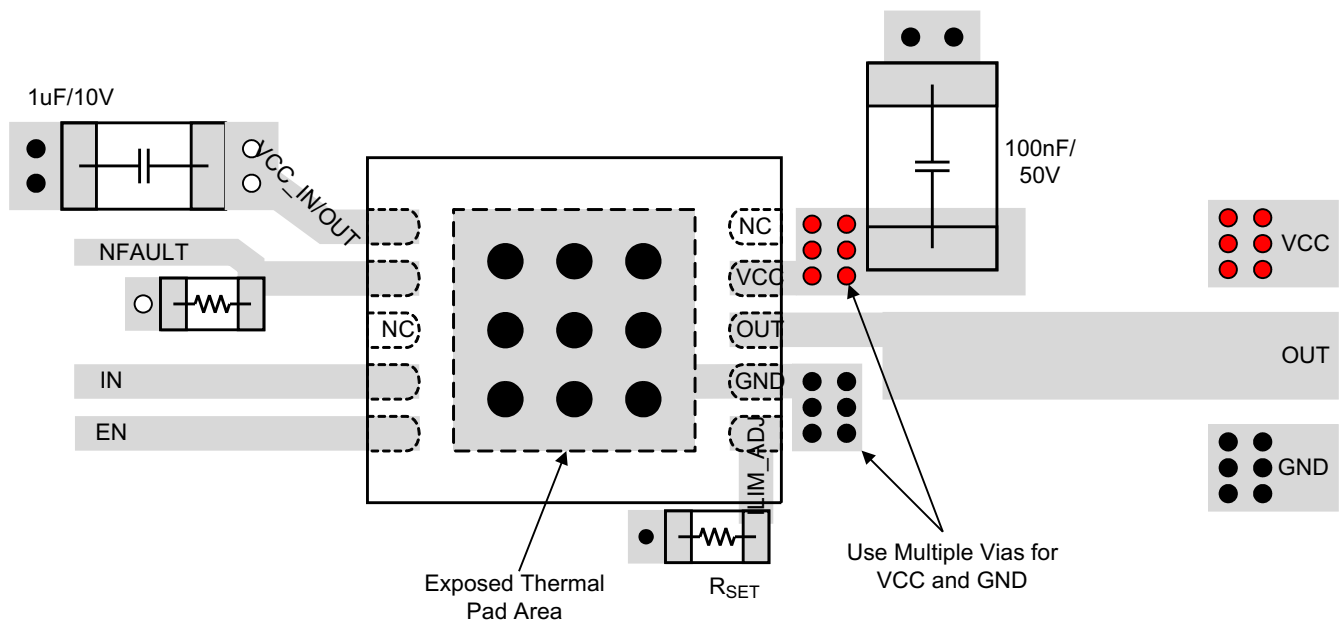

Figure 11-1. Layout Example
- • The optimum placement of the capacitor is closest to the VCC and GND terminals to reduce supply drops during large supply current loads. See Figure 11-1 for a PCB layout example.